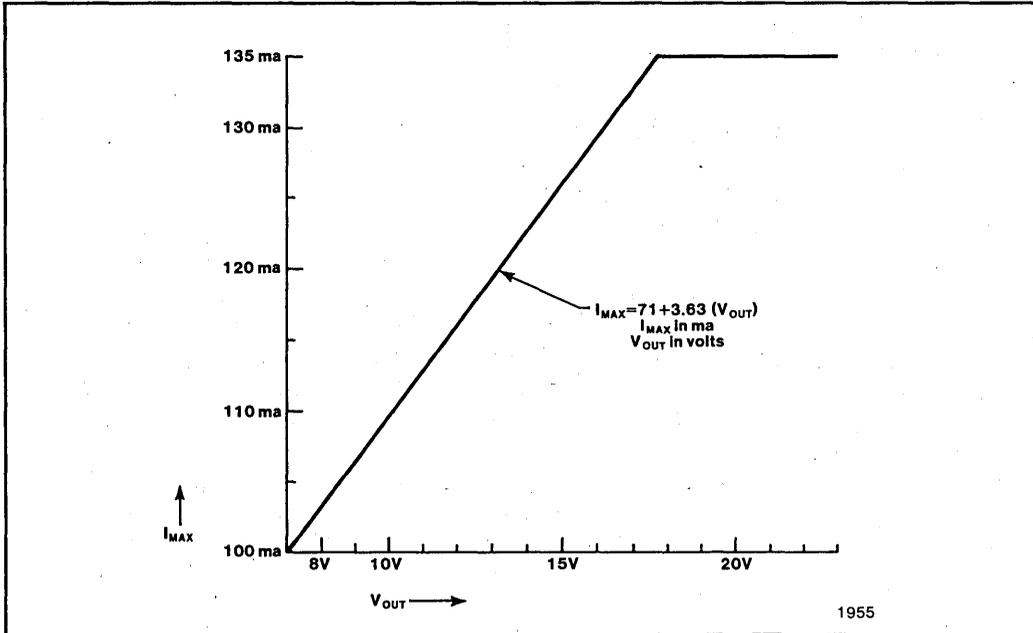

Figure 3. Power Available (iPDS™ +VHSW Signal)
Figure 3 shows the power available on the iPDS +VHSW signal line for the programmable voltages. The other power supply signals give rated power over their full range.
2. The voltage is controlled by the +VHSEL signal. Figure 3 shows the derating required for each selected voltage of +VHSW.